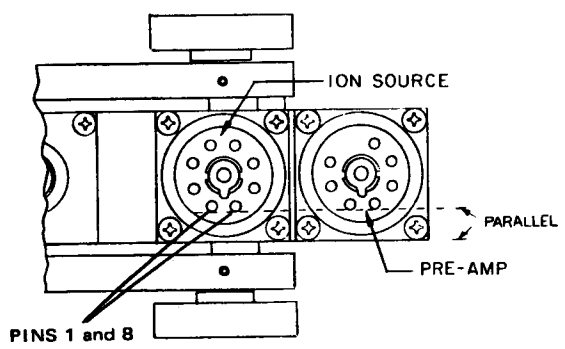

Figure 6-11.
10. Wipe the new O-ring and mating surfaces with clean lint-free cloth and place new ion source in cavity. Locating pin should be approximately in center of guide hole. Be sure that pins 1 and 8 are parallel to the sidewall of the spectrometer tube (Figure 6-11). Tighten hold-down flange evenly and firmly. (A straight edge held against pins 1 and 8 of both octal arrays is a convenient way to assure parallelity.)